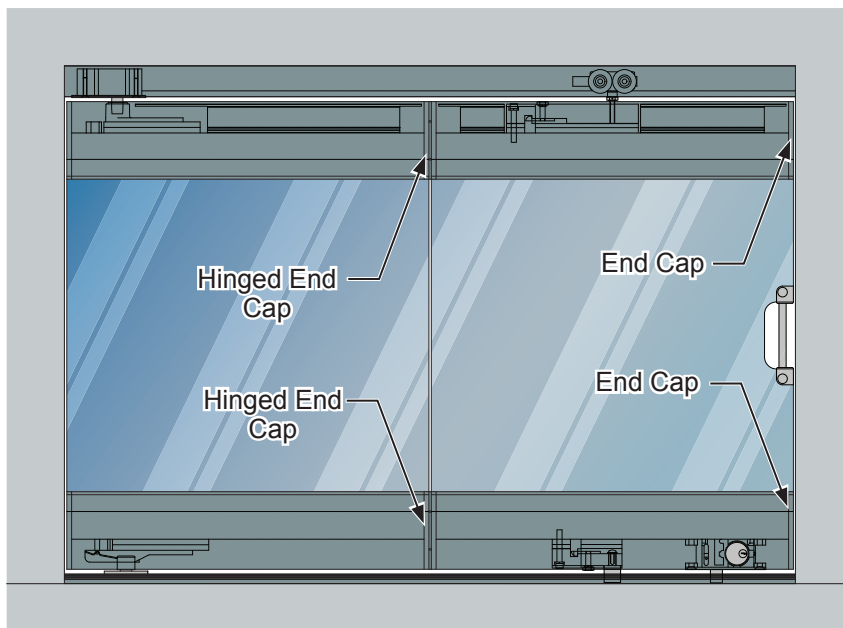

FIG. 16
3. Secure the hinged end caps attached to the pivot door leaf to the sliding door leaf. Be sure the screws are tight. Continue this process until all the sliding door leaves are installed. **(Fig. 16)**